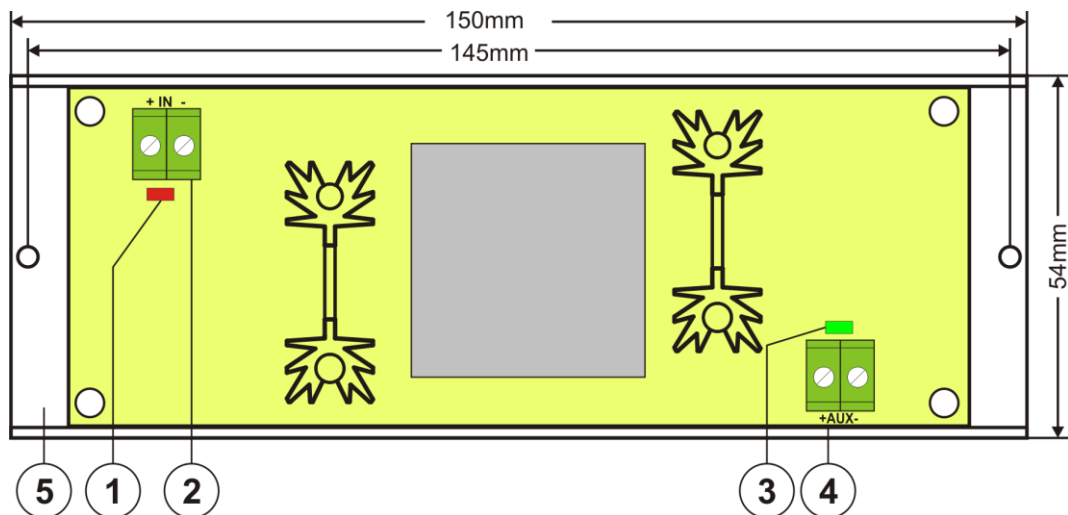

Fig.2. The converter module's view.
1.2. Description of components and connectors (Fig. 2, Table 1, Table 2).
No. [Fig. 2]	Component's description